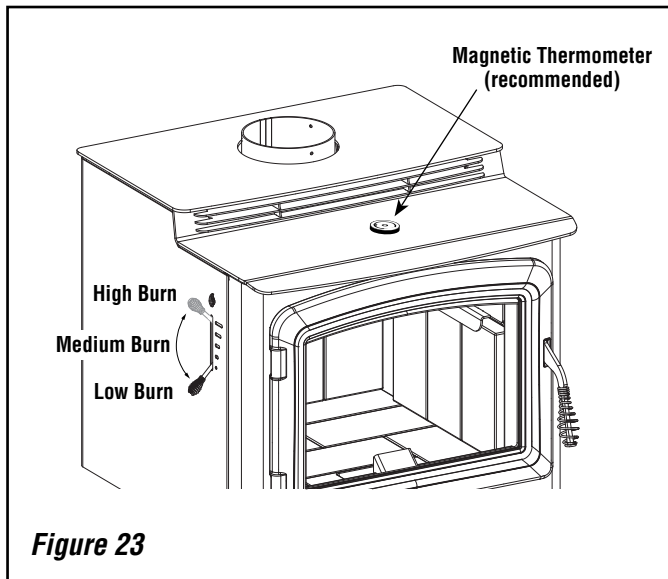

Figure 23
5. **When operating any wood burning appliance, it is important to become familiar with how the damper control affects heat output and the overall temperature of the appliance. A stove thermometer can be a helpful tool to help ensure you are not over-firing your appliance and it will also ensure you are burning fuel at a rate that is most efficient. Place a stove thermometer on the top of the appliance as shown in *Figure 23*. Monitor the temperature every 15 minutes or so until you become more familiar with your appliance. Close the damper all the way down if you begin to reach 500 degrees, as this is a sign that you are operating your appliance at too high a temperature.**